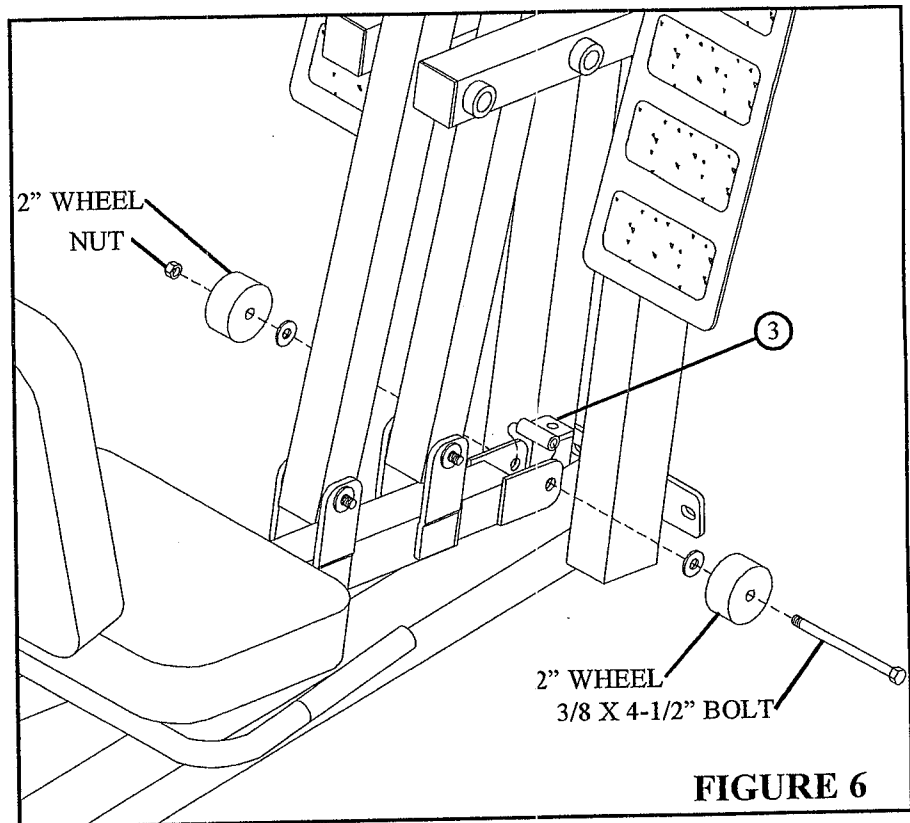

FIGURE 6
- Attach CABLE SWIVEL (3) to the ADJUSTMENT TUBE on the 832 using the existing previously removed 3/8 X 4-1/2" BOLTS, WASHERS, 2" WHEELS AND NUT. (Note: Securely tighten, then back off 1/4 turn to allow the CABLE SWIVEL & WHEELS to rotate freely.) See FIGURE 6.